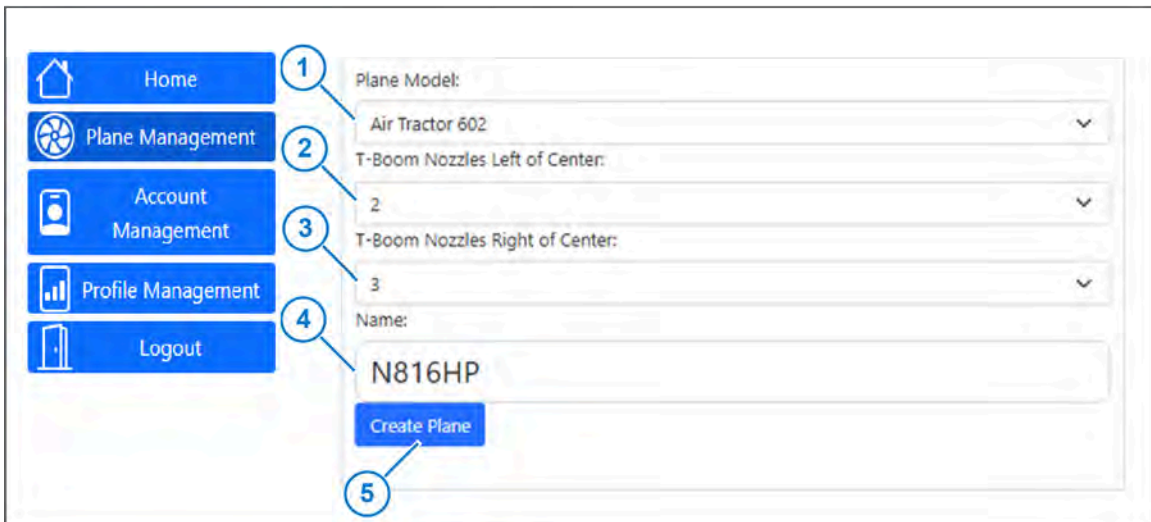

Figure 15: New Plane Screen
3. Select the box (Figure 15, Item 1) below **Plane Model**.
5. Select the box (Figure 15, Item 2) below **T-Boom Nozzles Left of Center**.
7. Select the box (Figure 15, Item 3) below **T-Boom Nozzles Right of Center**.
9. Select the box (Figure 15, Item 4) below **Name**.
11. Select **Create Plane** (Figure 15, Item 5).